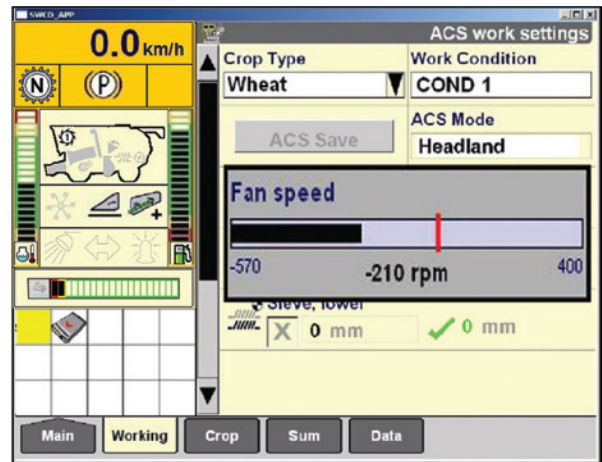

Figure 17.1
Adjustments are made using switches on the right hand console. As adjustments are made, pop-up windows are displayed to indicate current settings to the operator (see figure 17.1).
- When in Headland mode, values represent the difference between Harvest settings and the desired Headlands setting. (In figure 17.1, “-210” indicates a reduction off an speed of 210 rpm when in Headlands mode.)